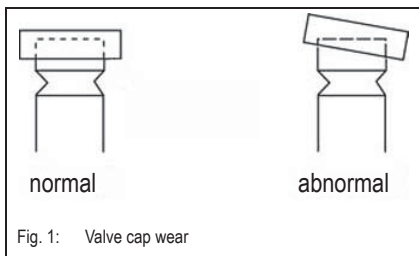

Fig. 1: Valve cap wear
- ☞ Check the valve cap for abnormal wear – see Fig. 1.